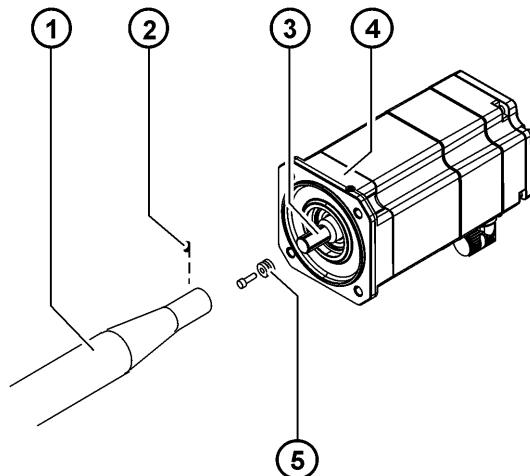

Fig. 11-14: Motor with connecting shaft
7. Slacken the setscrew (**>>> Fig. 11-14**) until the connecting shaft can be pulled off the toothring. Pull off the connecting shaft.